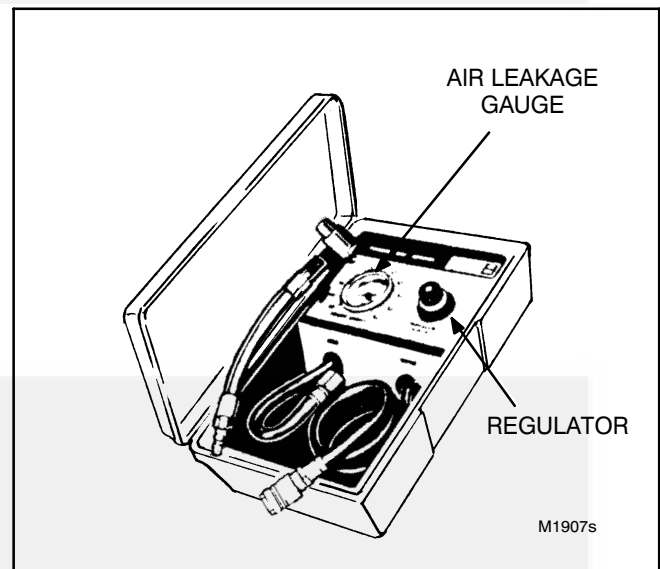

FIGURE 9-1. TYPICAL LEAK DOWN TESTER
4. Connect the leak down tester to shop air and set calibration (see Figure 9-1). Perform the leak down test according to the manufacturer's instructions. Secure the fan wheel to prevent the piston from moving during this test.